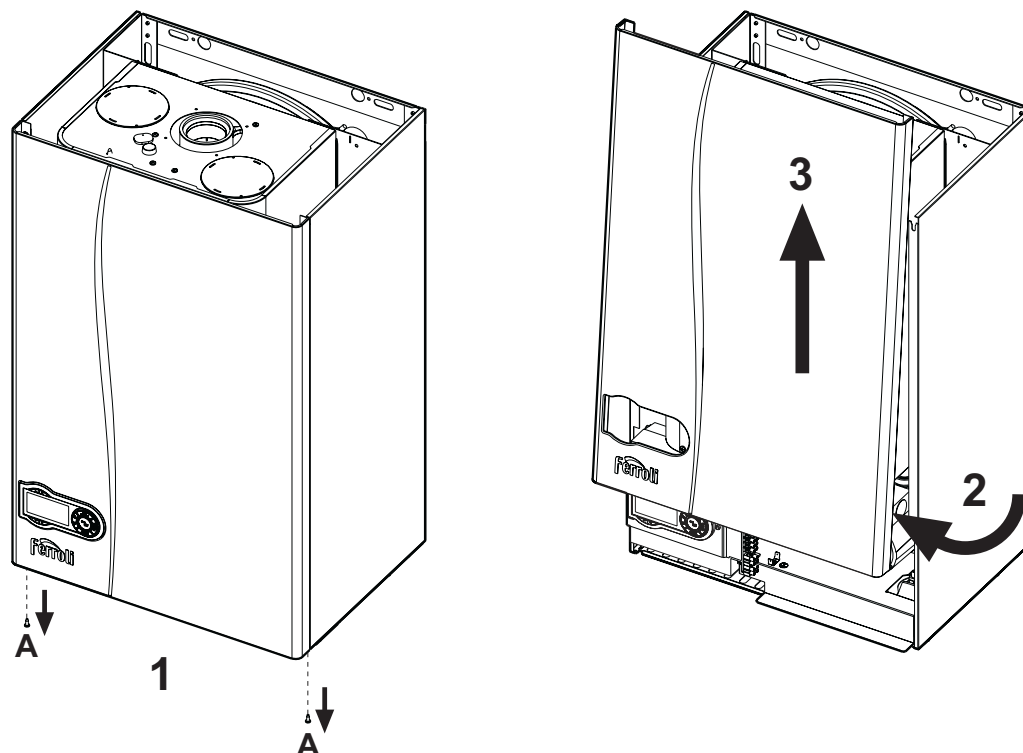

fig. 28 - Opening the casing
1. Unscrew the screws A (see fig. 28).
2. Pivot the casing upwards (see fig. 28).